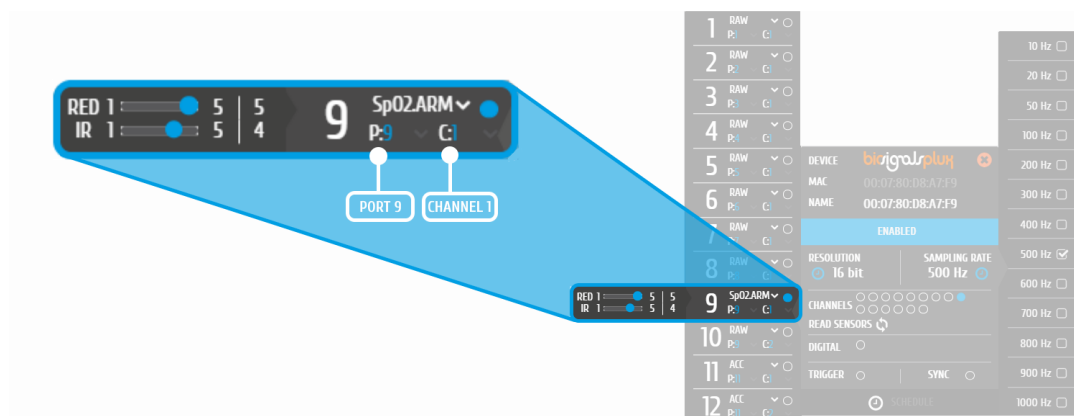

Figure 155: Port and channel number for SpO2 sensor.
In the device's panel, set up channel 9 for signal acquisition, set the port (P) to 9 and the channel (C) to 1 (Figure 155) and select one of the available SpO2 options in the channel's dropdown menu. The different options are designed for different placement areas of the SpO2 sensor. We recommend selecting the available configuration that fits best your needs. The following configurations are available: